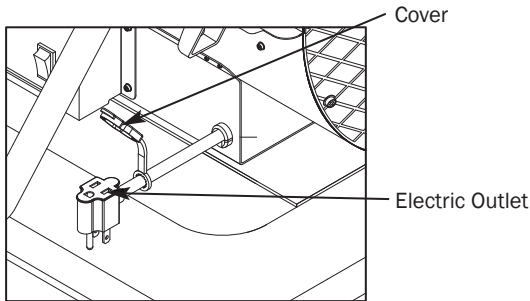

Figure 11 - Piggyback Power Cord
- Always cover electrical outlet when not in use. See Figure 11.